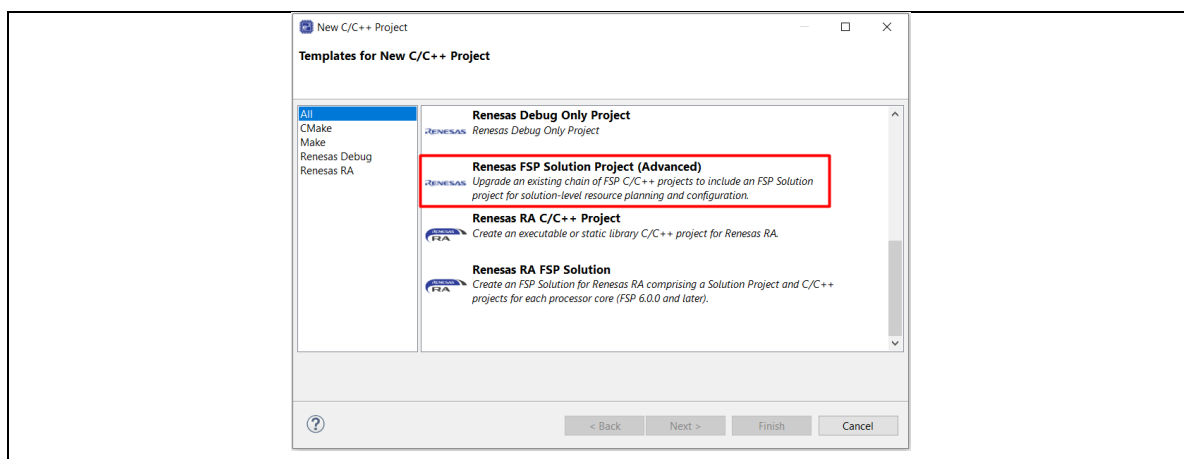

Figure 109. Renesas FSP Solution Project (Advanced)
1. Click **File > New > C/C++ Project** and select **Renesas FSP Solution Project (Advanced)**, as shown in **Figure 109**.